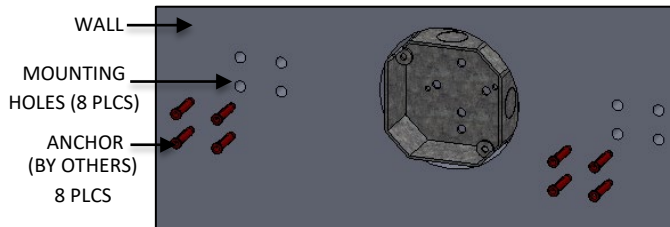

FIG. 7 - ANCHOR BODY MOUNTING TO WALL (BY OTHERS)
3. Attach the ANCHOR (BY OTHER) to WALL as shown in FIG.7. USE ANCHORS WHICH ARE RATED FOR AT LEAST 50LB PER ANCHOR AND ARE SUITABLE FOR THE WALL MATERIAL (ANCHORS NOT PROVIDED).